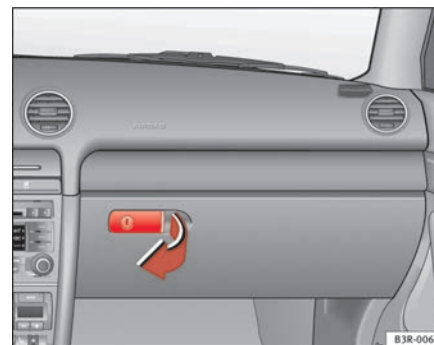

Fig. 129 Glove compartment
- Pull the handle on the lid in the direction indicated (arrow) ⇒ fig. 129 and open the lid.
- Open the glove compartment ⇒ page 149, fig. 129.